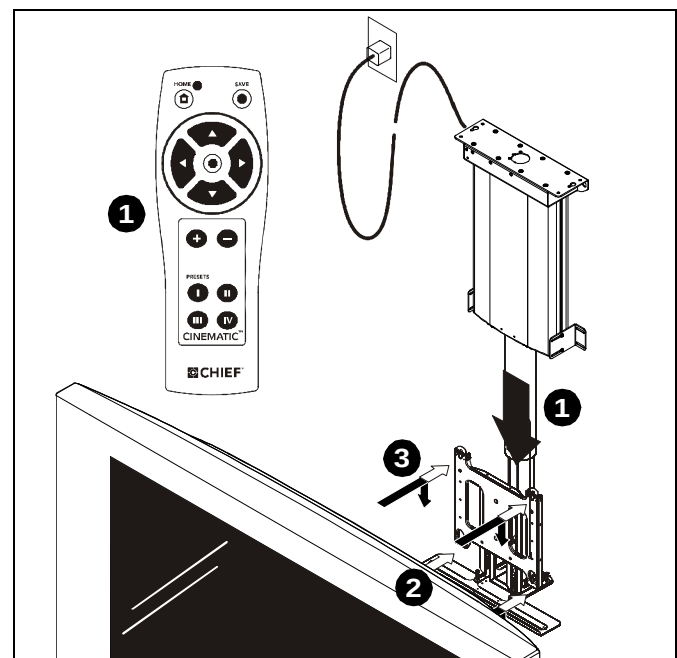
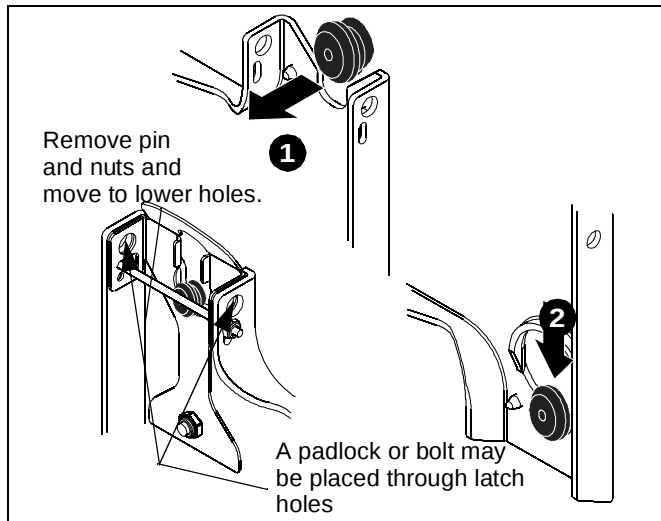

Figure 18
Figure 19
2. While supporting both sides of display, align four mounting buttons on display or interface bracket with four mounting holes in faceplate. (See figure 18) and (See figure 19)
3. Lower display into place listening for audible "click" to ensure recessed area of mounting buttons are properly seated in lower area of mounting holes and "click lock" mechanism has engaged. (See figure 18) and (See figure 19)
NOTE: Holes are provided in the faceplate for use with a padlock or similar locking device, if desired. In addition, the pin and nut may be removed from the upper holes and moved to the lower holes for use as a more permanent locking device. (See figure 19)